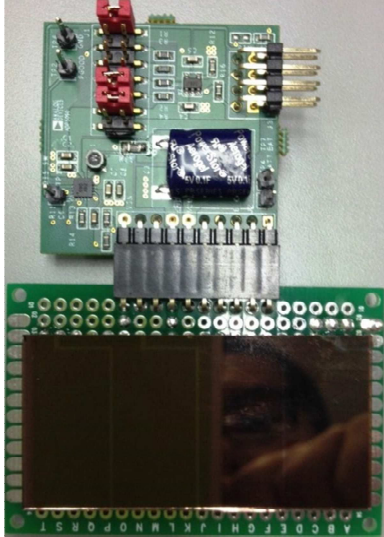

Figure 2. Hardware Setup
1. Connect the solar panel's 10 pin connector to the J2 10 pin connector on the ADP5090 board as shown in Figure 2.